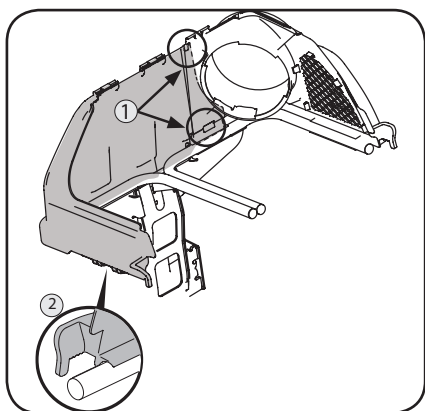

Figure 4-7
3. Slide the left side grass catcher cover (731-12350B) over the upper chute support and the bag support assembly. Carefully latch the two tabs in place into the front of the upper chute support, see 1 in Figure 4-7. Fit the snaps onto the left side bagger rail support. See 2 in Figure 4-7.